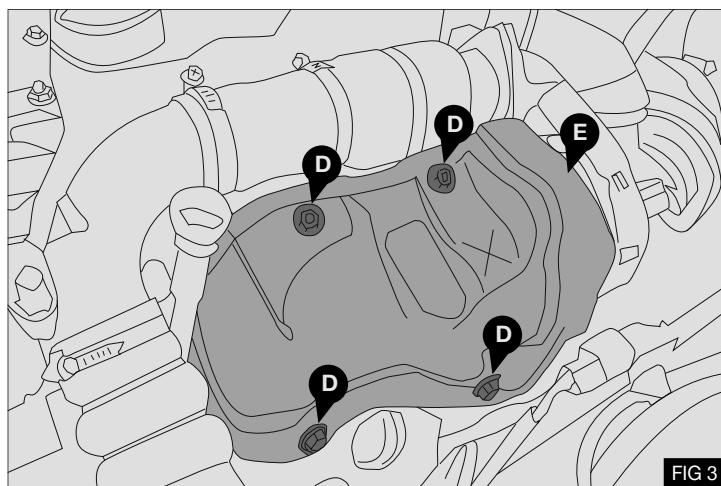

FIG 3
5. Remove and retain the 4 x M6 bolts (D) and the heat shield (E) from the exhaust system - Fig 3